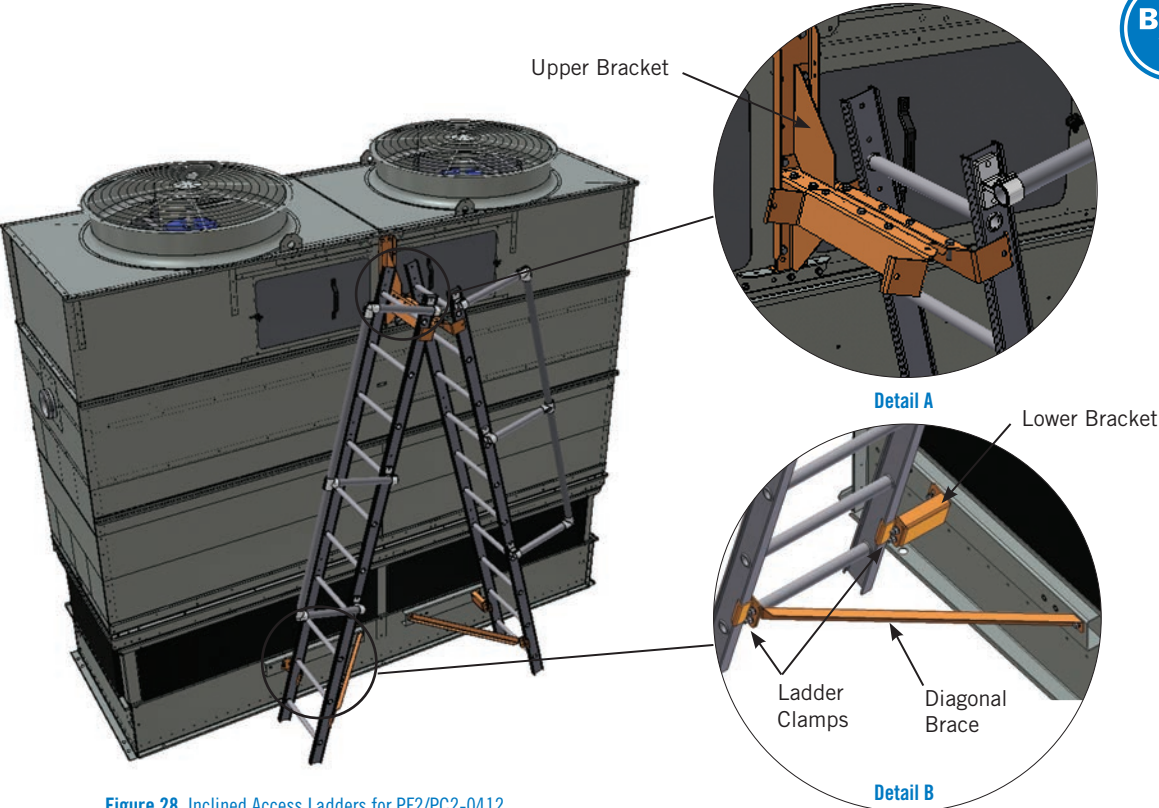

Figure 28. Inclined Access Ladders for PF2/PC2-0412
Refer to Figures 28 to 30 for your particular unit.
1. Install the upper bracket as shown in **Figures 28 to 30, Detail A**. Depending on the unit, this bracket might be factory installed.
2. Install the lower bracket(s) in the two outermost holes in adaptor channel as shown in **Figures 28 to 30, Detail B**.
7. Loosely fasten the diagonal braces of the lower support assembly into position with the ladder clamps, as shown in **Figures 28 to 30, Detail B**.